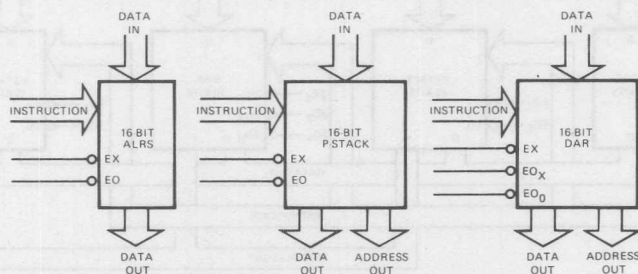
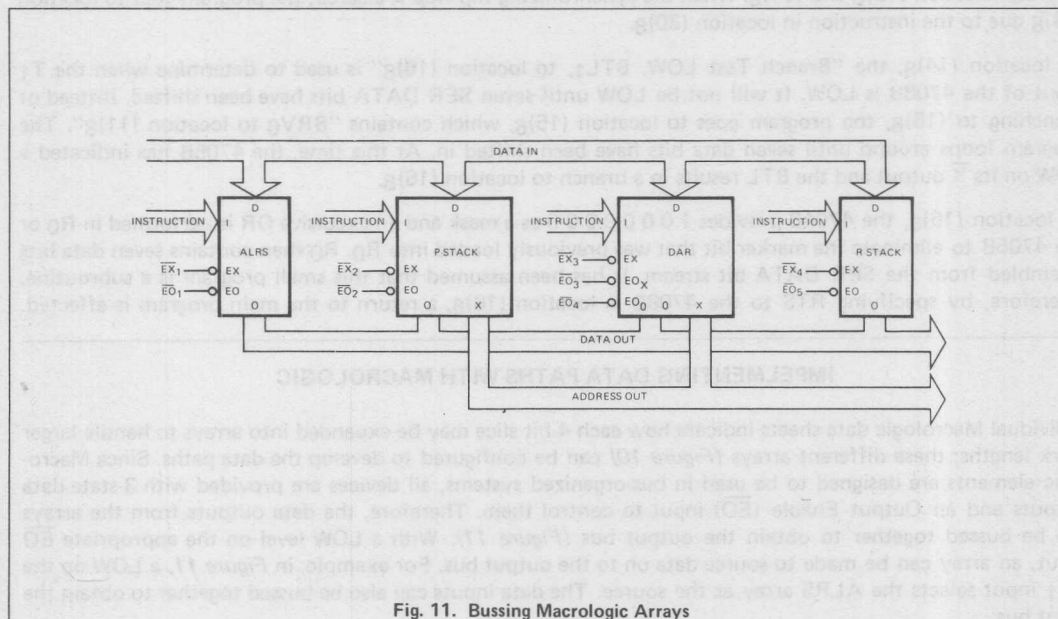

Fig. 10. Typical Macrologic Arrays
Fig. 11. Bussing Macrologic Arrays
Individual Macrologic data sheets indicate how each 4-bit slice may be expanded into arrays to handle larger work lengths; these different arrays (*Figure 10*) can be configured to develop the data paths. Since Macrologic elements are designed to be used in bus-organized systems, all devices are provided with 3-state data outputs and an Output Enable (EO) input to control them. Therefore, the data outputs from the arrays can be bussed together to obtain the output bus (*Figure 11*). With a LOW level on the appropriate EO input, an array can be made to source data on to the output bus. For example, in *Figure 11*, a LOW on the EO₁ input selects the ALRS array as the source. The data inputs can also be bussed together to obtain the input bus.